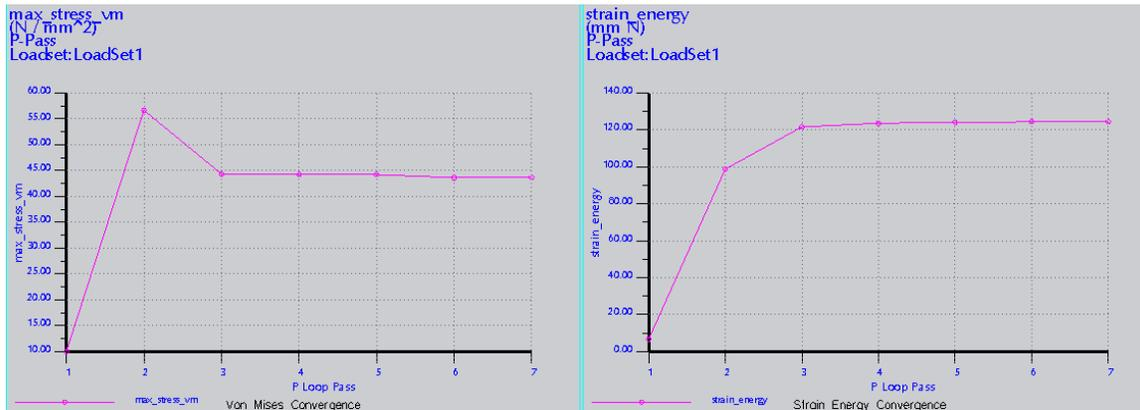

Figure 33 Convergence of Von Mises stress Figure 34 Convergence of total strain energy
- Select Insert → Cutting/Capping Surfs. The window is shown in Figure 32. Select apply. The model is now sliced on the cutting plane as shown in Figure 33.
- The three convergence plots are shown in Figure 33, 34 and 35.